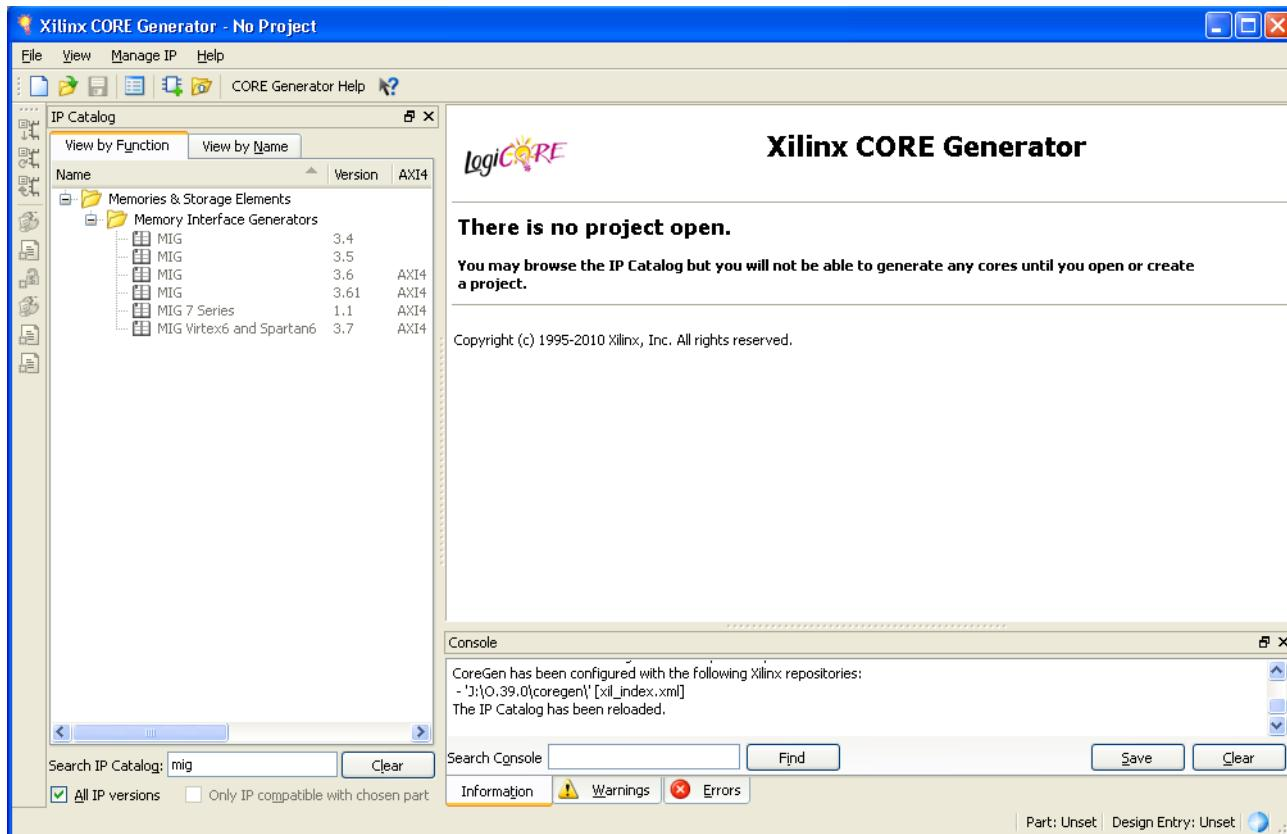

Figure 2-1: Xilinx CORE Generator Tool
1. To launch the MIG tool from the CORE Generator tool, type **mig** in the search IP catalog box (Figure 2-1).